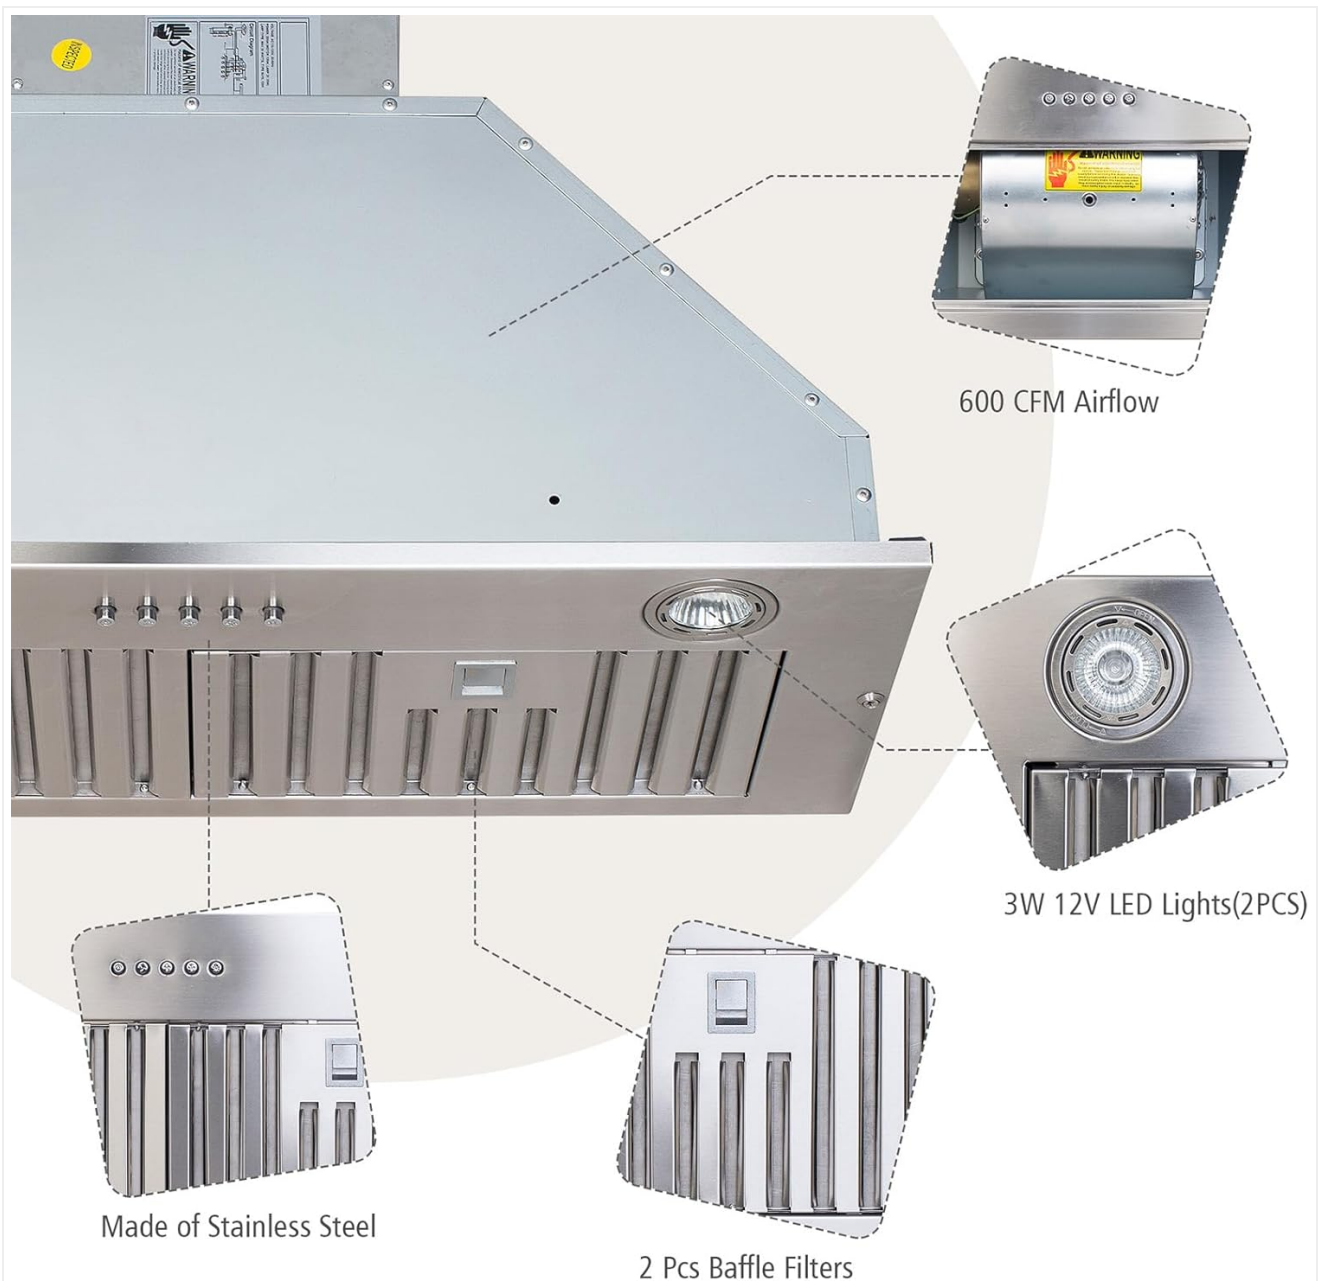

Figure 3: Changeable LED Lights. This image illustrates the 'Twist and Lock' mechanism for easily replacing the LED light bulbs when necessary.
- **Lights Not Working:** Check if the light button is pressed. If the bulbs are replaceable, check if they need replacement (refer to Figure 3 for LED light replacement).